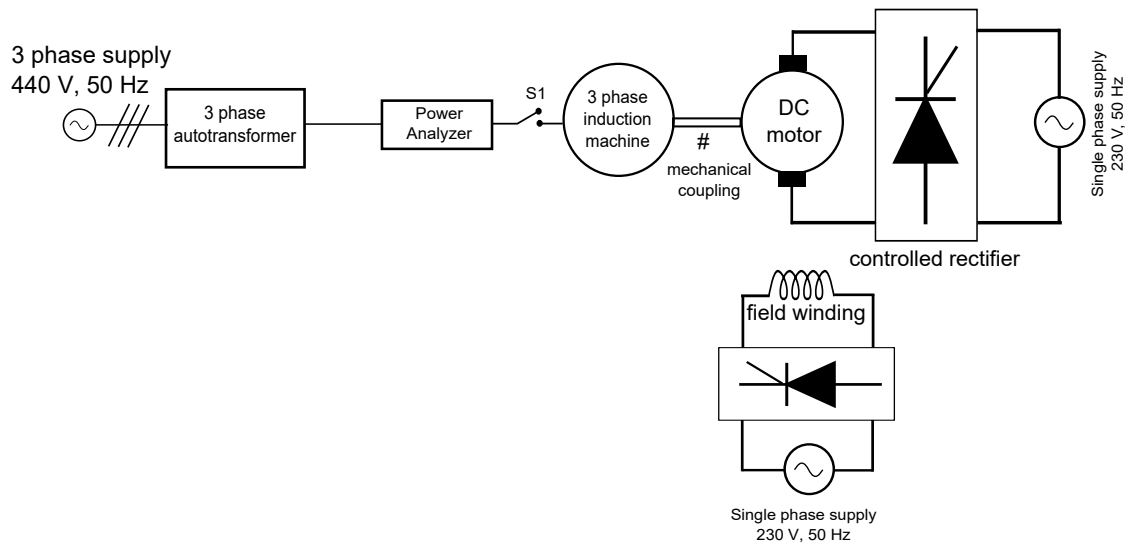

Figure 3: Grid connected induction generator
1. Make circuit connections as shown in Fig.3